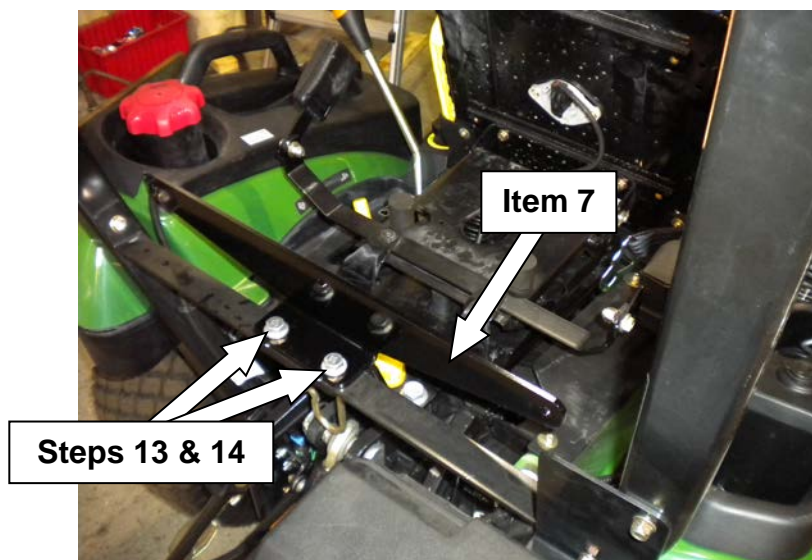

Figure 5
13. Remove two rear bolts that secure the rear cross bar to the mount bracket (**Figure 5**).
14. Place rear mount (7) on top of bar and secure by re-using the two bolts from Step 13 (**Figure 5**).